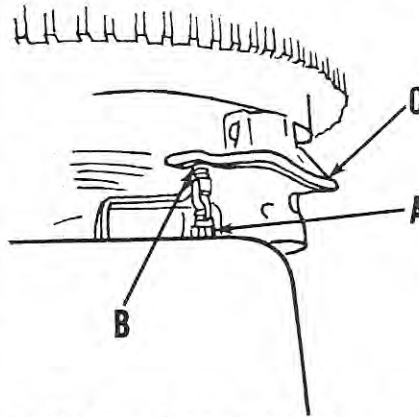
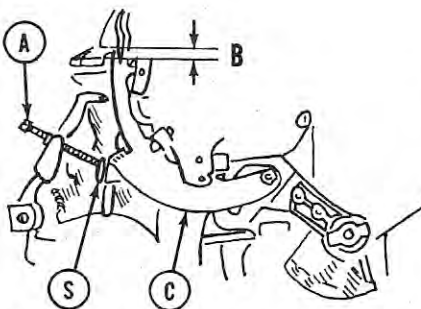
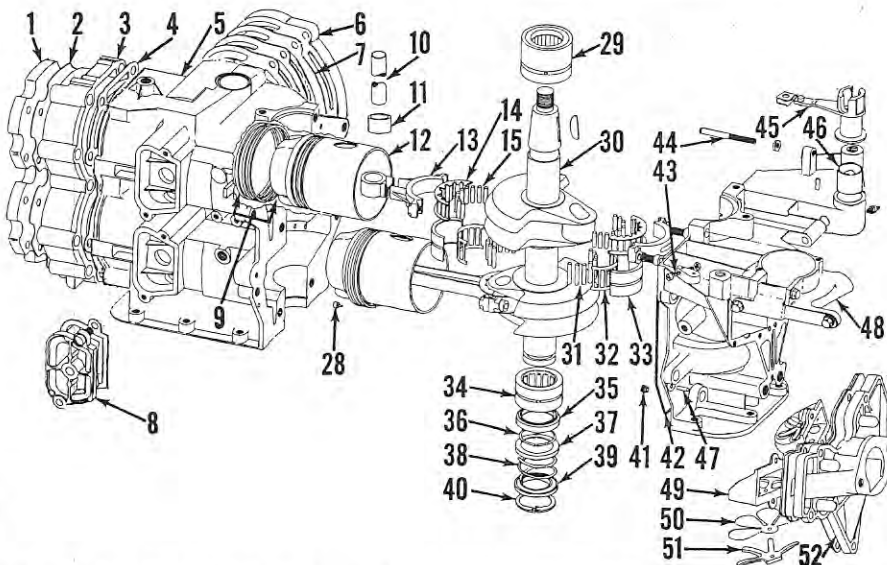

Fig. Mc79 — Throttle control linkage used on late models. Refer also to Fig. Mc78.
Fig. Mc78 — Schematic view of speed control mechanism used on late models. Clearance (B) should be $\frac{1}{4}$ inch. See also Fig. Mc79.
Fig. Mc87 — Exploded view of power head used on late models. Early models are similar.
Models After 1960: Refer to Figs. Mc78 and Mc79. Move speed control grip to "Slow" position and shift lever to "Neutral" position. With idle stop (S—Fig. Mc78) contacting slow idle stop screw (A), adjust the screw until clearance (B) between neutral stop and limiting lever is $\frac{1}{4}$ -inch. NOTE: Fig. Mc78 illustrates mechanism used on electric starting models. Manual start model adjustment is identical except for location of idle speed stop screw (See 44—Fig. Mc87).
With idle speed stop screw properly adjusted and stop (S—Fig. Mc78) contacting screw (A), turn the throttle control adjusting screw (A—Fig. Mc79) in or out until a clearance (B) of 0.020 exists between adjusting screw (A) and synchronizing cam (C).
Start the motor and turn the speed control grip until clearance (B—Fig. Mc78) is eliminated and neutral stop contacts the limiting lever, then make final adjustment of the throttle control adjustment screw (A—Fig. Mc79) until the recommended fast (neu-
The piston pin is a tight press fit in connecting rod and runs in renewable caged needle bearings in piston bosses. Be sure to center pin during assembly so that neither end can protrude beyond outer edge of piston. Install bearings (11—Fig. Mc87) so that inner edge is almost flush with inner edge of piston boss. Connecting rod is marked "TOP" for proper assembly. All bearing and friction surfaces should be lubricated when power head is assembled.